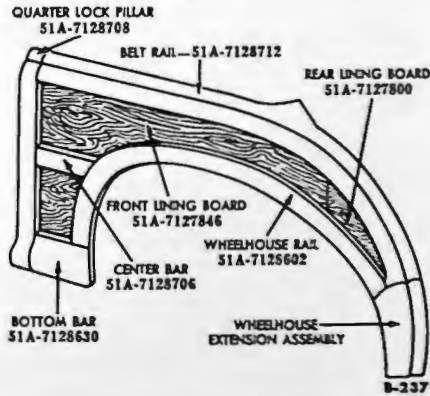

Fig. 2—Quarter Frame
(1) **FRONT AND REAR LINING BOARD REPLACEMENT** (fig. 2). Remove the hardware, glass, and trim necessary to remove the wood assembly from the body, and remove the assembly from the body. Remove the screws from the lining board. Remove the splicer and the lining board. Clean the rabbet joints and install the new lining board, using glue on the joints. Install the splicer and screws. Assemble the wood assembly to the body, and install the hardware, glass, and trim.
(2) **BELT RAIL REPLACEMENT** (fig. 2). Remove the hardware, glass, and trim necessary to remove the wood assembly from the body. Remove the wood assembly from the lining board and the joints. Remove the reinforcement plate. Saw through the belt rail near the quarter frame, lock pillar, and above the wheelhouse extension assembly joints. Saw through the belt rail at several places. Using a chisel, remove the belt rail from the lining board, being careful not to damage the lining board. Clean the joints and install a new belt rail, using glue on the joints. Install the screws in the joint and lining board. Install the reinforcement plate and assemble the wood assembly to the body. Install the hardware, glass, and trim.
(3) **QUARTER FRAME LOCK PILLAR REPLACEMENT** (fig. 2). Remove the hardware, glass, and trim necessary to remove the wood assembly from the body, and remove the wood assembly from the body. Remove the screws from the lining board and joints. Saw through the quarter lock pillar near the belt rail and bottom bar, and on both sides of the center bar. Saw through the quarter lock pillar
(4) **BOTTOM BAR REPLACEMENT** (fig. 2). Remove the hardware, glass, and trim necessary to remove the wood assembly from the body. Remove the wood assembly from the body. Remove the screws from the lining board and the joints. Saw through the bottom bar near the quarter lock pillar and the wheelhouse rail. Using a chisel, cut the bottom bar from the lining board (if necessary saw the bottom bar in short pieces). Clean the wheelhouse rail and quarter lock pillar. Install the new bottom bar using glue on the joints. Clamp each joint until the glue is set. Install the screws in the lining board and the joints. Assemble the wood assembly to the body, and install the hardware, glass, and trim.
(5) **CENTER BAR REPLACEMENT** (fig. 2). Remove the hardware, glass, and trim necessary to remove the wood assembly from the body. Remove the wood assembly from the body. Remove the screws from the lining board and the joints. Saw through the center bar near the quarter lock pillar and wheelhouse rail, being careful not to damage the lining board. Using a chisel, remove the center bar (if necessary, cut the center bar in small pieces), and clean the joints. Install the screws in the lining board and the joints, and assemble the wood panel to the body. Install the hardware, glass and trim.
(6) **WHEELHOUSE RAIL REPLACEMENT** (fig. 2). Remove the hardware, glass, and trim necessary to remove the wood assembly from the body. Remove the wood assembly from the body. Remove the screws from the lining board and joints. Saw through the wheelhouse rail near the bottom bar, wheelhouse extension assembly, and center bar. Saw the wheelhouse rail in small pieces, and, using a chisel, cut the wheelhouse rail from the lining board. Clean the joints, and install the new wheelhouse rail, using glue on the joints. Clamp the joints until the glue is set. Install the screws in the lining board and joints. Install the wood assembly to the body. Install the hardware, glass, and trim.